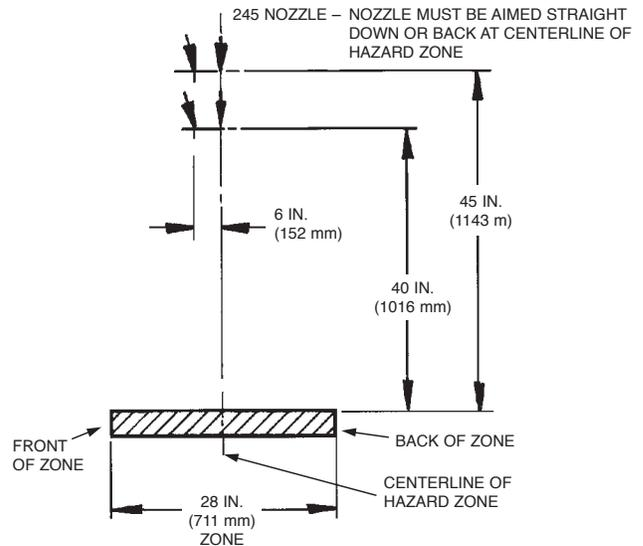

FIGURE 4-107
3. The overlapping appliance nozzles must be located 40 in. to 45 in. (1016 mm to 1143 mm) above the top surface of the protected appliances. See Figure 4-107.
4. The overlapping appliance nozzles must be located 0 in. to 6 in. (0 mm to 152 mm) forward of the centerline or ainline of the selected hazard zone. See Figure 4-107.